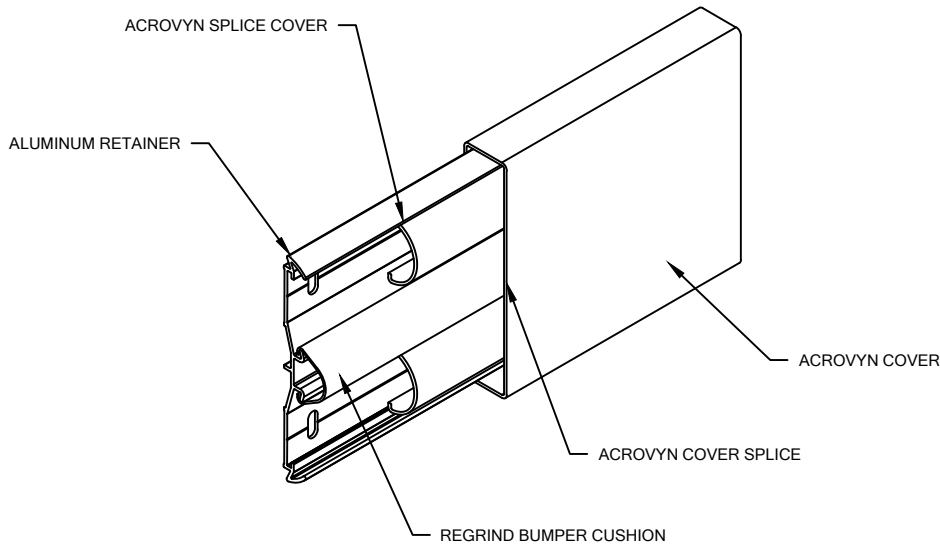

FIGURE 1.
5. ATTACH THE ACROVYN SPLICE COVERS AT ALL SPLICE JOINTS BY SNAPPING THEM INTO PLACE ABOVE AND BELOW THE REGRIND BUMPER CUSHION (SEE FIGURE 1).
6. ATTACH END CAPS/OUTSIDE CORNERS BY SLIDING THE END CAP/OUTSIDE CORNER ONTO THE END OF THE ALUMINUM RETAINER AND SECURING INTO POSITION USING TWO (2) 1/4-20 X 1/2" HEX HEAD MACHINE SCREWS WITH LOCK WASHER AND 1/4-20 NUT AT EACH END CAP AND FOUR (4) AT EACH OUTSIDE CORNER.